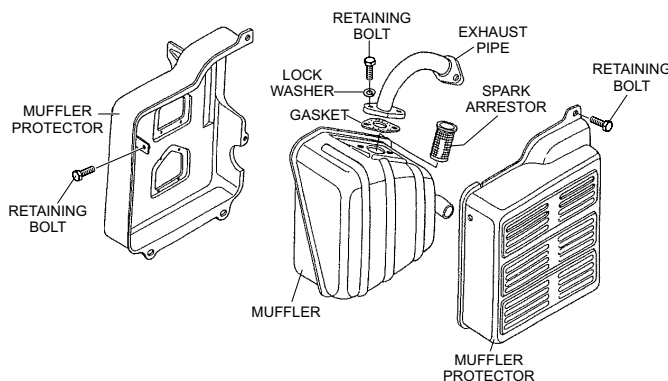

**Figure 24. Cleaning Foam Element**
2. Clean foam element (Figure 24 in warm, soapy water or non-flammable solvent. Rinse and dry thoroughly.